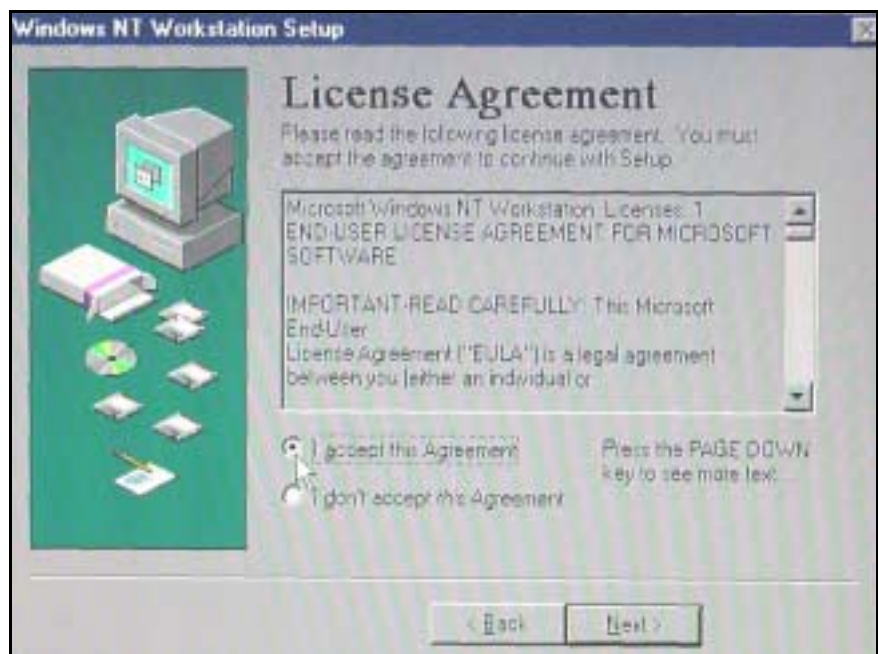

Figure 4-11 License Agreement screen
19. At “License Agreement” screen (see Figure 4-11) click on “I accept this Agreement”, then click on *Next*.